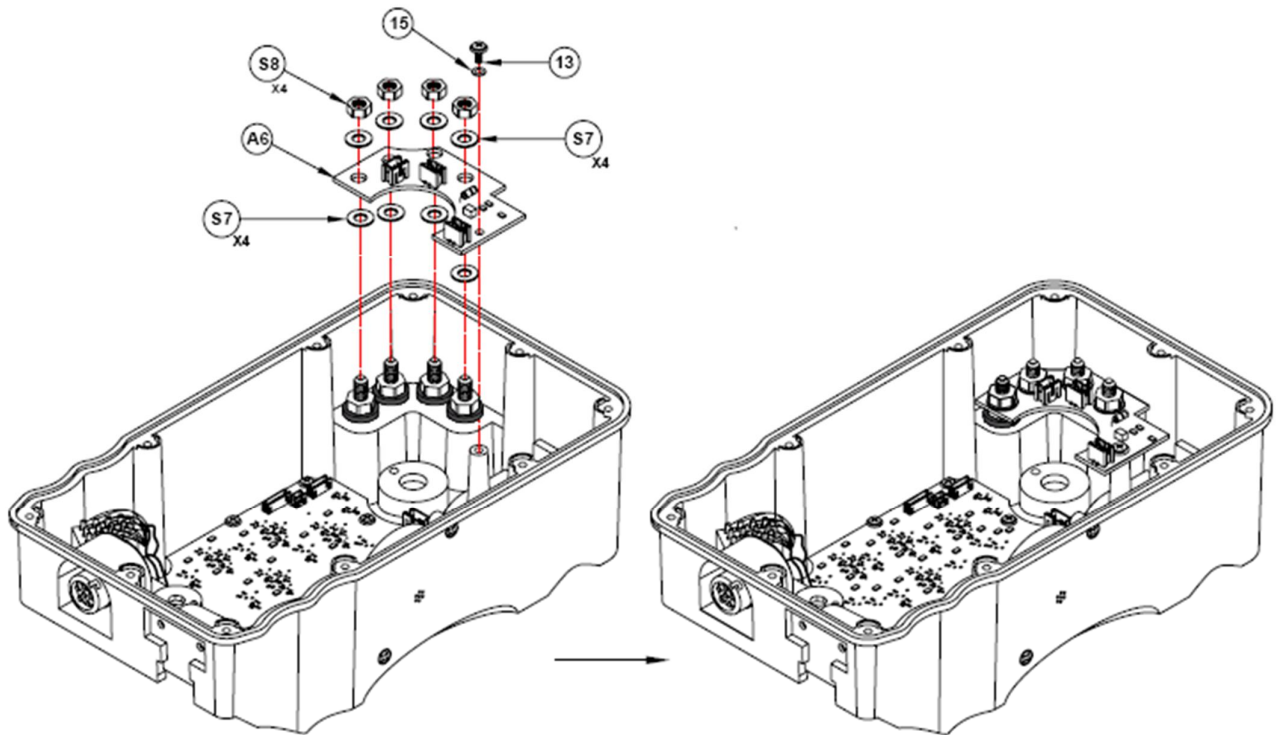

Figure 8 : Re-assembly of Binding post PCA card
- Using the screw driver unscrew the screw (marked as 15) in the Figure 8.
- Using the hexagonal nut runner, from the inner side of top assembly unit, loose the 04 nos. of nut (marked as S8) in the Figure 8.
- f) Remove the plain washer (marked as S7) in the Figure 8.